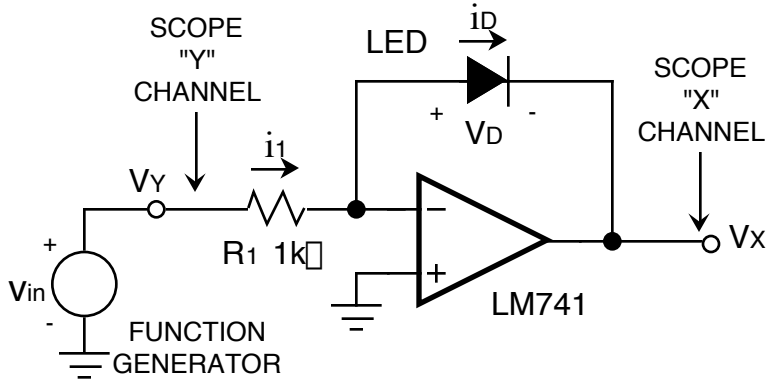
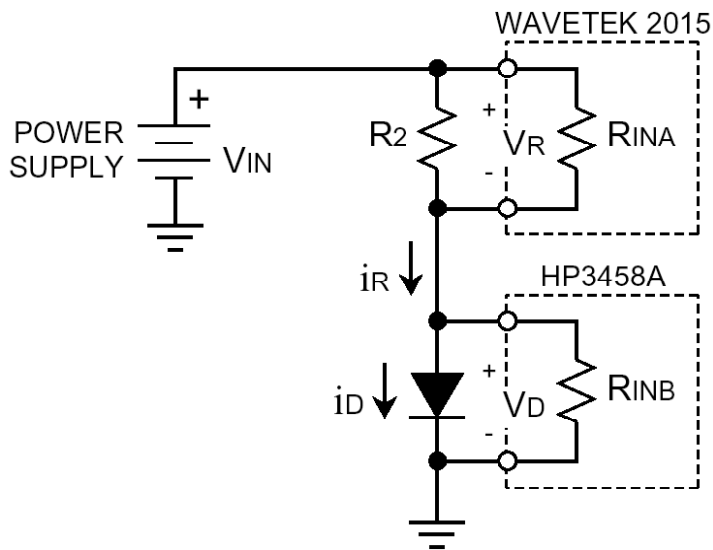
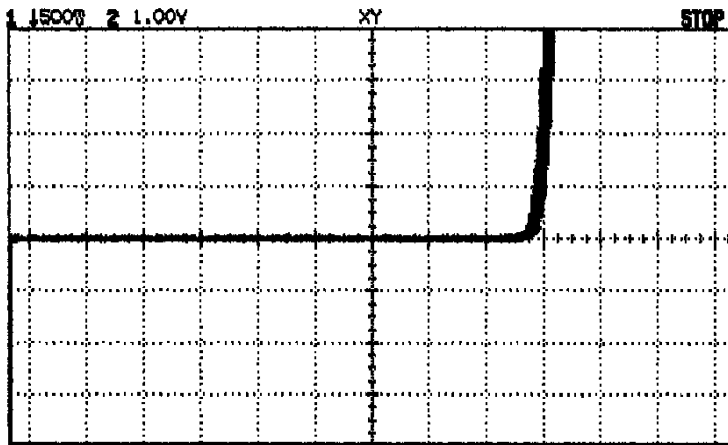
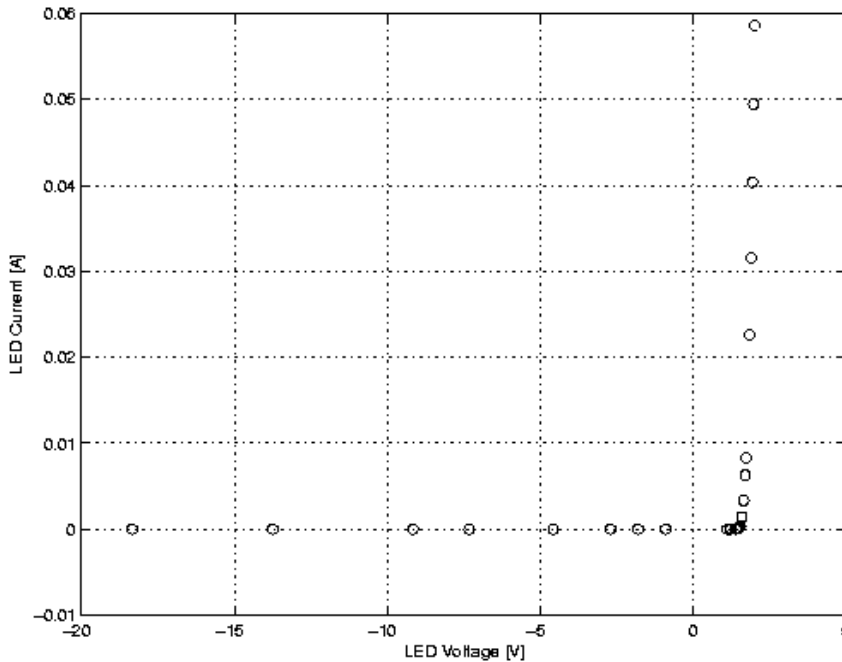

Fig. 1. Circuit for X-Y oscilloscope measurement.
Fig. 2. Precision V-I measurement circuit.
Fig. 3. Scope X-Y plot of LED V-I characteristic.
Fig. 4. Measured LED V-I characteristic.
Two circuits were used to measure the V-I characteristic of the LED. The first circuit, shown in Fig. 1, was used to display the V-I characteristic on an oscilloscope.
In practice, although the approach shown in Fig. 1 is good for obtaining a qualitative display of the V-I characteristic, the result is not sufficiently accurate for comparing performance to the model of Eq. (1). For example, at low diode currents, the bias current of the LM741 is no longer negligible, and idealizing the op-amp input current to be zero causes a significant error.
For more accurate measurement of the V-I characteristic, the circuit of Fig. 2 was used.
An oscilloscope plot of the output of the circuit of Fig. 1 is shown in Fig. 3.
As can be seen from Fig. 3, the plot does not provide sufficient accuracy for a detailed comparison of the V-I characteristic to the model of Eq. (1). The measured results using the more precise circuit of Fig. 2 are given in Table 1. To cover a wide range of currents, resistors of nominal values 51Ω , $1k\Omega$, $47k\Omega$, and $1M\Omega$ were used; for each value of resistance, the input voltage was changed to vary the diode current. The resistances and voltages were varied in an approximately logarithmic fashion, to provide uniform coverage of the wide range of LED currents covered by Eq. (1). Table 1 also gives the calculated LED currents, which were determined using Eq. (4). The actual values of the resistors used for R_2 were measured using the HP3458 meter. The input resistances used for the Wavetek 2015 and HP3458A meters (from the manufacturer's specifications) were both $10M\Omega \pm 1\%$.
Table 1. Measured results for circuit of Fig. 2
Figure 4 shows a plot of the LED current as a function of LED voltage, on a linear scale. The general shape of the plot is similar to the scope photo of Fig. 3, thus confirming the basic approach.